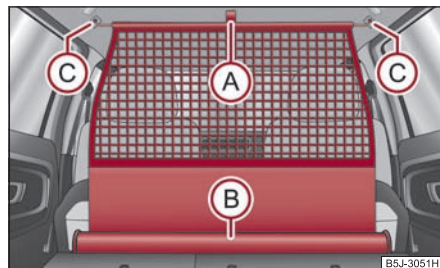

Fig. 89 Pull out net partition
- Pull the net partition net at the plate (A) out of the housing (B) ⇒ fig. 89.
- First of all insert the cross rod into the mount (C) on one side.